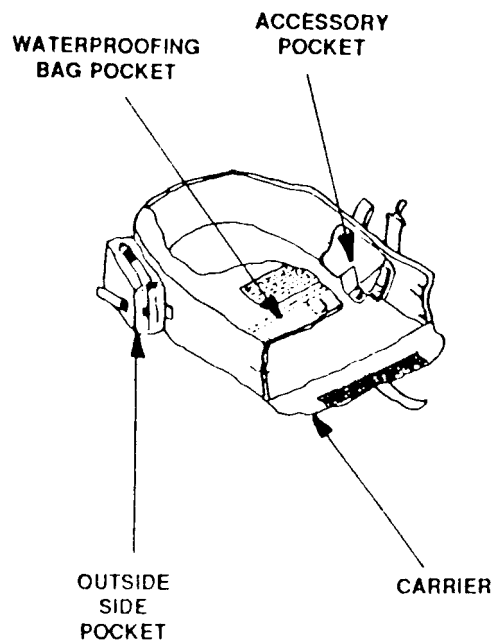

Figure 4-7. Carrier Stowing Pockets
- a. Stow waterproofing bag in large inside pocket at front of carrier (Figure 4-7).